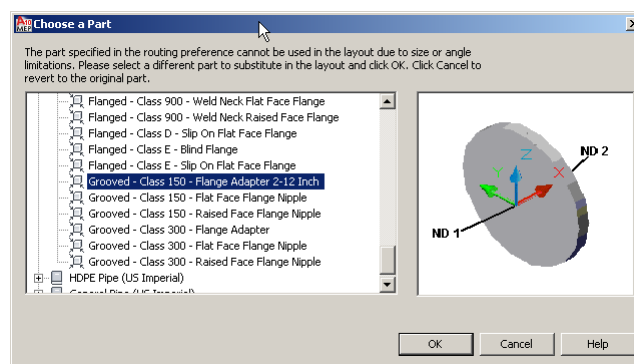

Figure 6.47
7. Expand the *Steel Pipe* Catalog. Scroll down and select the Grooved – Class 150 – Flanged Adaptor 2-12 Inch and then click OK (see Figure 6.47).